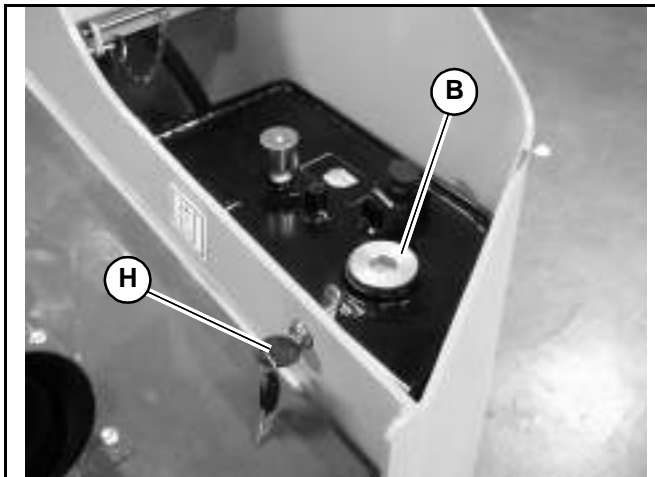

Fig. 99 – Hydraulic Oil Fill
- If the hydraulic oil level is low, use the accessory key (supplied with the ignition key) to unlock and open the hydraulic tank cover (H, Fig. 99), located on the top right of the machine next to the top engine cover.
- Using the key, unlock and open the hydraulic tank cover (H, Fig. 99), located on the top right of the machine next to the top engine cover.
10. Remove hydraulic oil fill cap (B, Fig. 99) and add the recommended type and amount of oil. See “Fluids/Lubricants Types and Capacities” on page 31. Replace and tighten the hydraulic oil fill cap after the oil is added.